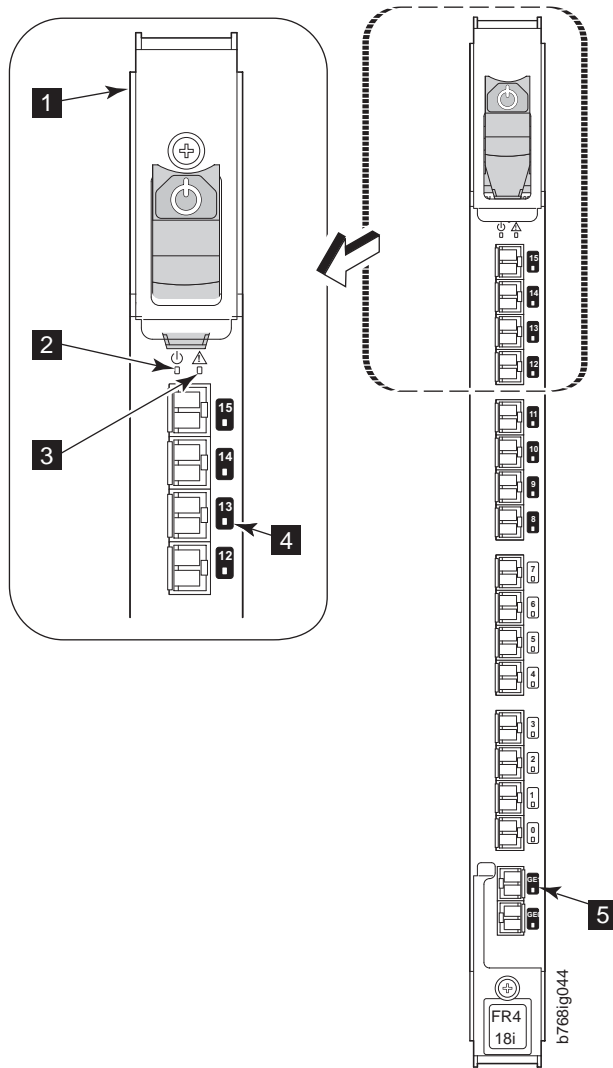

Figure 18. FR4-18i routing blade
- Figure 18 on page 46 illustrates the FR4-18i routing blade.